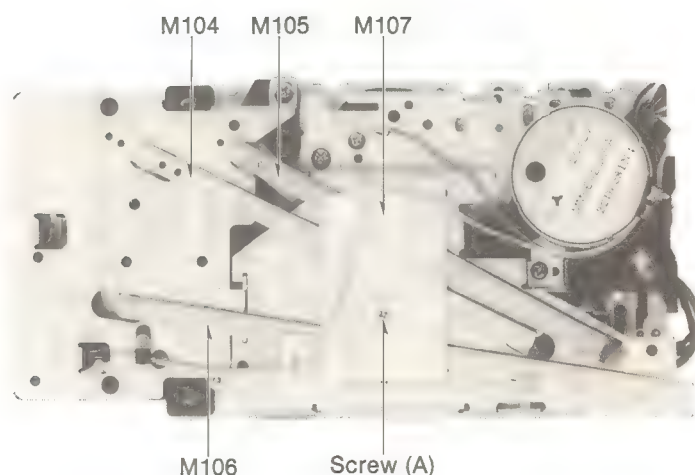

Fig. 1
1. Remove screw (A) and connection plate retainer (M107). The remove fast forward connection plate (M104), rewind connection plate (M105) and record connection plate (M106) (see Fig. 1).